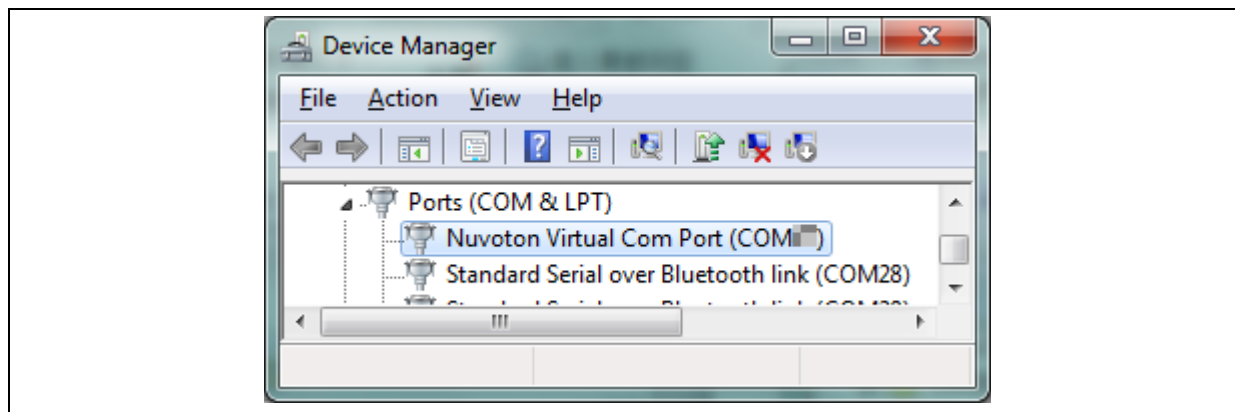

Figure 4-5 Device Manager
- Find the “Nuvoton Virtual COM Port” on the Device Manager as Figure 4-5.